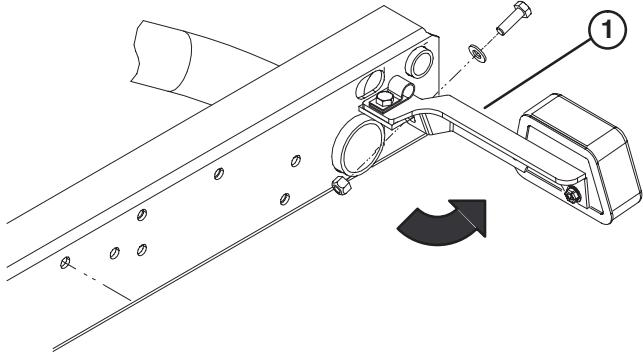

Figure 1
1. Loosen the locknuts and capscrews securing tail light brackets to right and left frame brackets (Fig. 1).
3. Secure rear of each tail light bracket to rear of frame brackets with a 5/16-18 x 1" lg. capscrew, .344" I.D. flatwasher and locknut, as shown in figure 1.